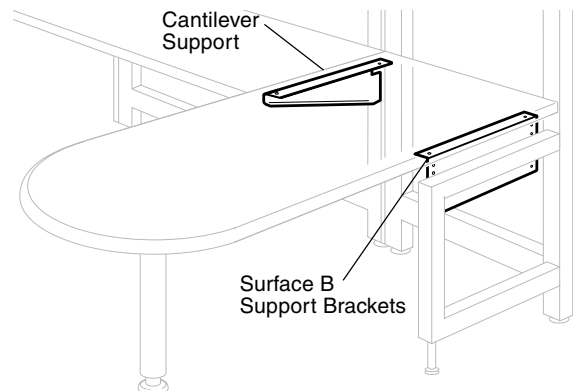

Figure 3
6. Install the button at the rear of the surface. Install the supports and attach the top according to its instructions. (Figure 3)